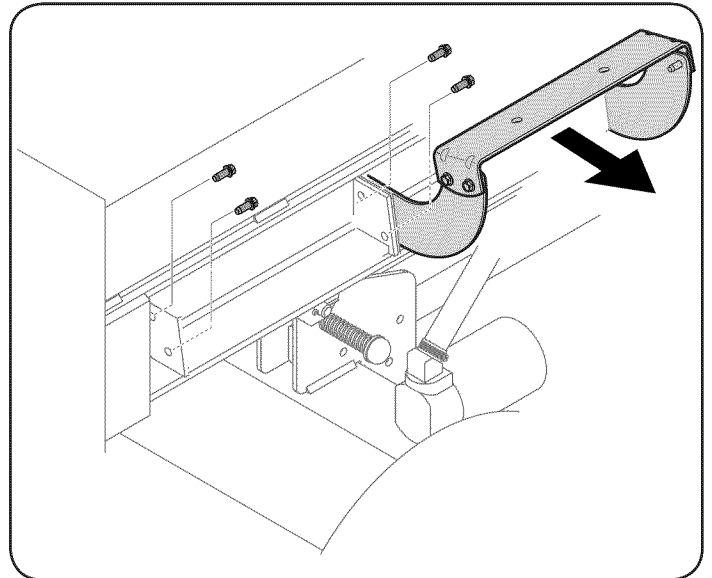

Figure 5
17. Disconnect the log cradle from the beam on the side of the control valve by removing the two hex washer screws that secure it to the beam and the two hex washer screws in the beam flange. The cradle is off-set for shipping purposes. See Figure 5.